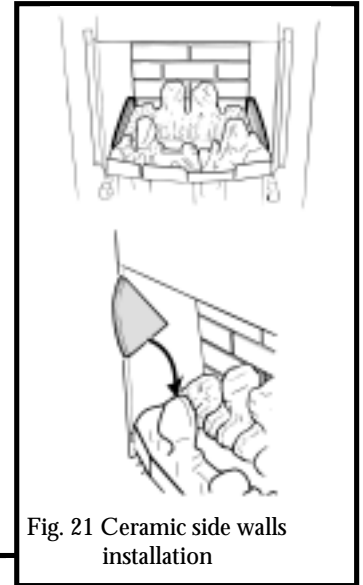

Fig. 21 Ceramic side walls installation
10.4 The ceramic side walls are marked at the rear bottom corners "L" (Left side) & "R" (Right side). Place the side walls against the sides of the fire box and in the recesses at the sides of the base coals. The markings "L" & "R" should be at the back bottom corners and facing to the centre of the back of the firebox (See figure 21).